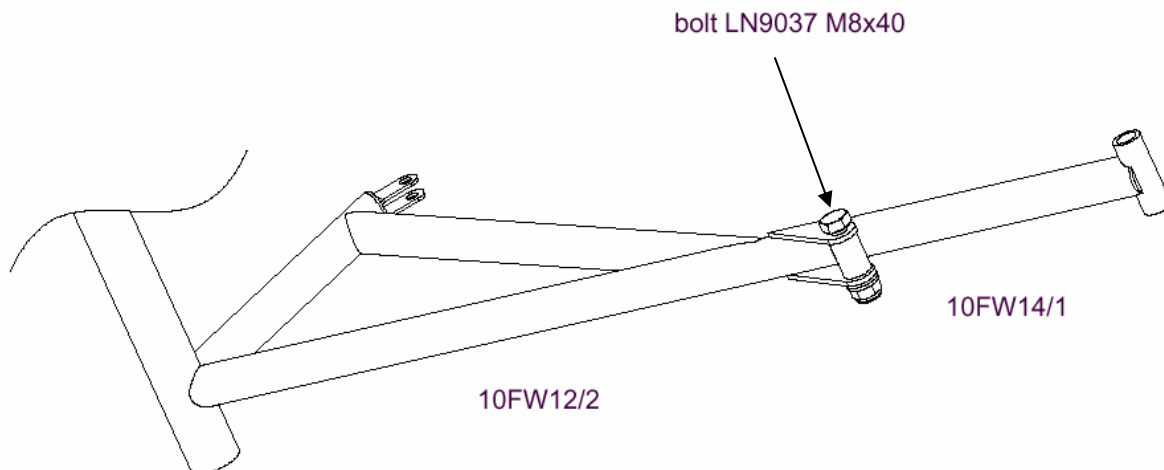

figure 3: removal of bolt LN9037-M8x40
3. The forced landing gear locking device will be installed at the left struts of the landing gear. Therefore remove the bolt LN9037 M8x40 which connects the left strut 10FW14/1 to the rear fork 10FW12/2, see figure 3. (will no longer be used)